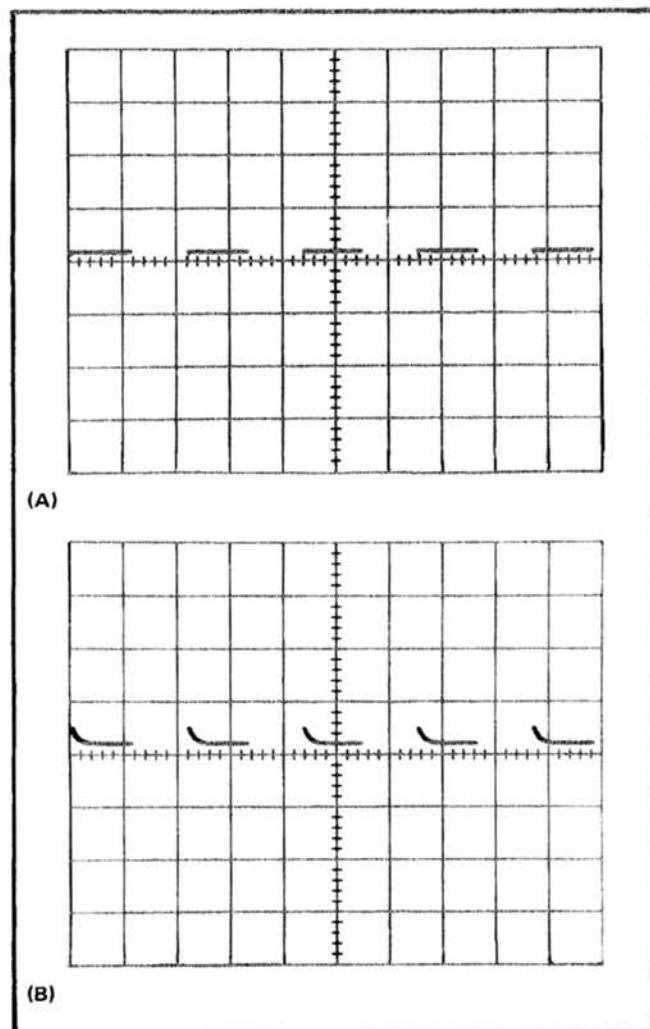

Fig. 5-2. Typical waveform showing (A) Cross neutralization properly adjusted, (B) incorrectly adjusted.
- Check—The upper leading corner of the waveform, and note any aberration that occurs while switching the —INPUT AC-GND-DC switch from GND to DC. The waveform should appear similar to the one in Fig. 5-2. The aberration should not exceed $\pm 1\%$.
- CHECK—The lower leading corner of the second cycle of the display and note any aberration that occurs while switching the +INPUT AC-GND-DC switch from GND to DC. The bottom leading corner of the waveform should appear similar to the one shown in Fig. 5-2. The aberration should not exceed $\pm 1\%$.